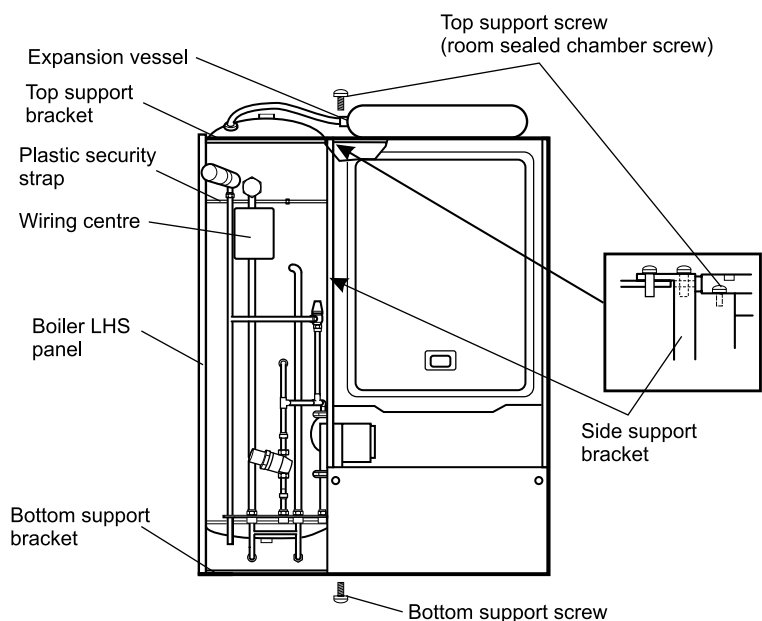

Fig. 8
4. Connect the flexible hose to the expansion vessel and locate it in the space above the boiler to the rear, with the connection to the left as shown in Fig. 8. Connect the expansion vessel hose to the connection on the top left hand side of the store.
5. Fit the side support bracket to the boiler in place of the boiler left hand side panel, securing at both top and bottom as shown in Fig. 8 (remove the front screw from the top of the room sealed chamber to secure the top of the bracket).